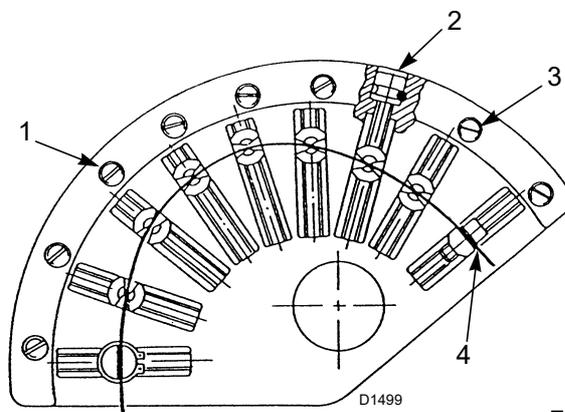

Fig. 29
The starting profile of cam 1)(Fig. 29) must be progressively adjusted by turning screws 2)(Fig. 29).
- Key (Fig. 29)
For better adjustment repeatability, take care to stop the rotation of the cam unit when the upper bearing that slides on the profile 4)(Fig. 29 on page 25) is aligned with one of the adjustment screws 2).
turn the adjustment screws 2)(Fig. 29) after having loosened the screws 3).
With the optimal adjustment obtained, remember to lock the adjustment screws of the cam profiles by means of screws 3)(Fig. 29).
- 80s The servomotor rotates to the left up to the angle set on the cam 2)(Fig. 29 on page 25).